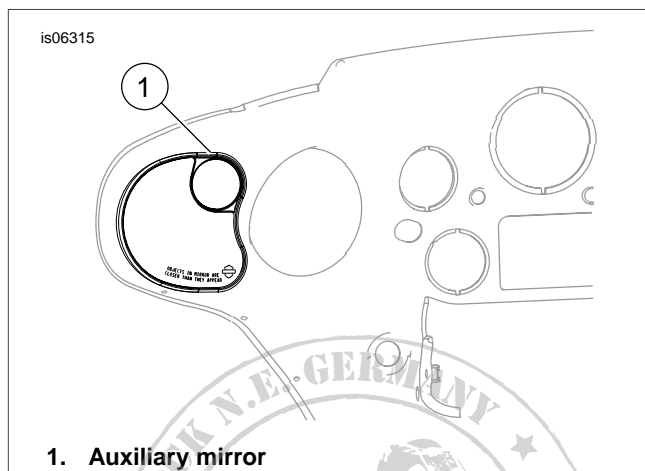

Figure 2. Orientation of Auxiliary Mirror
See Figure 2 and Table 1.
4. See Figure 2. Position the mirror so the round auxiliary mirror is in the upper inside corner position.